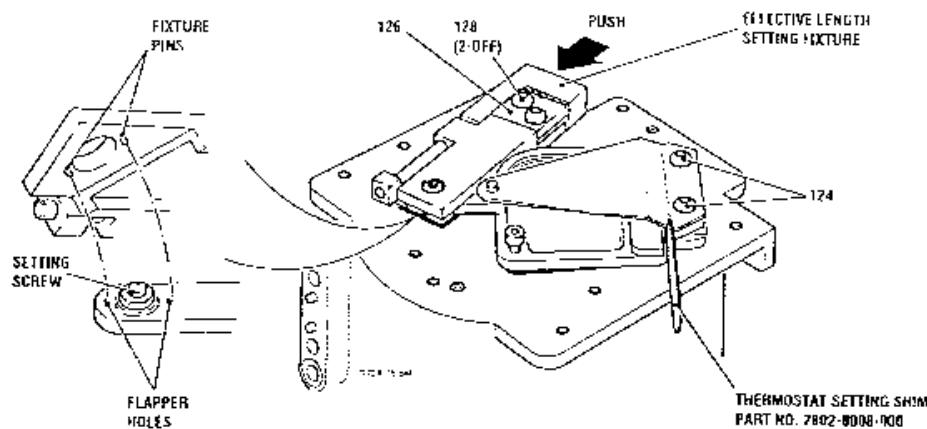

Fig. 3.33 Setting The Effective Length
13. Fit the jewelled bearing (116) into the hole in the tip of a new thermostat spring (123). Hold the jewelled bearing in position, fit the spring and bearing onto the hinge plate body (122) and then fit the two thermostat spring securing screws (124) loosely through the complete assembly into the sump base.
14. Insert the thermostat setting shim Part No. 2802-8008-000 illustrated in Fig. 3.33.
15. Fit the thermostat effective length setting fixture, either Part No. 2802-8005-000 or 2802-8006-000 as applicable, onto the thermostat flapper so that the two pins in the fixture fit into the holes in the thermostat flapper, as illustrated in Fig. 3.33.
17. Ensure that the two bi-metal clamps (126) are square to each other, then torque tighten the securing screws (128) to 2.0 Nm using tool Part No. 2802-8053-000.
18. Torque tighten the thermostat spring assembly securing screws (124) to 2.0 Nm using tool Part No. 2802-8053-000.